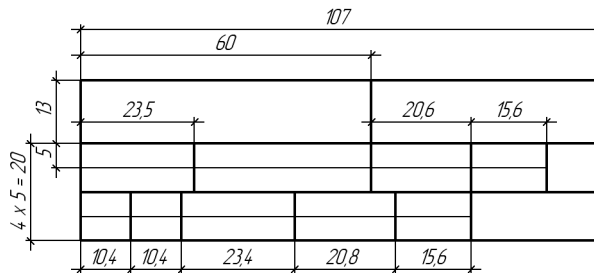

Fig. 11.2. Additional Title Block Structure and Dimensions
2. Using system line styles *Normal* and *Thin* draw a table in this fragment following the dimensions specified on Fig. 11.2.